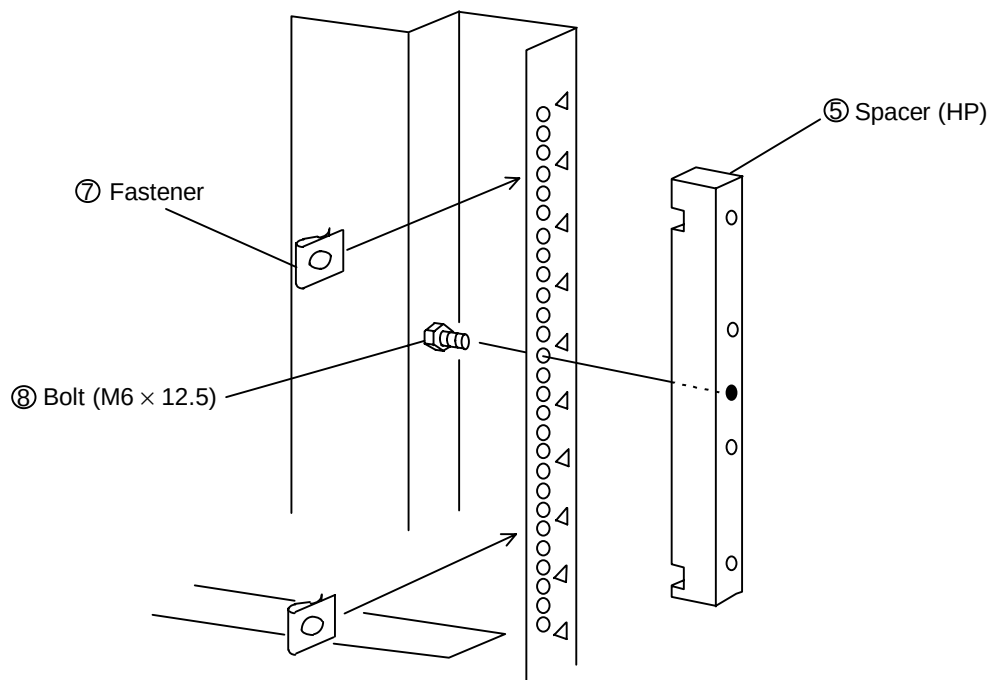

Figure 1.4.5 Installing the Spacer (HP) and Fasteners
1.4.4 Installing the spacer (See Figures 1.4.5 and 1.4.6.)